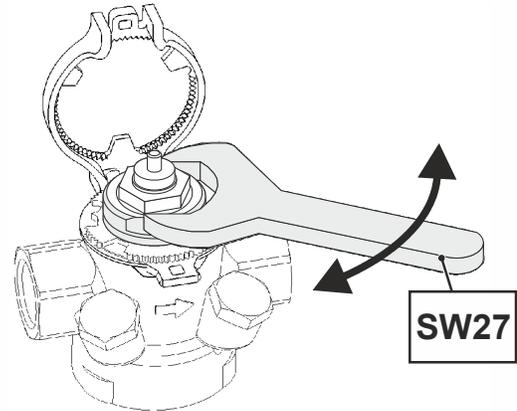

Fig. 5. Turning the presetting ring to desired setting
3. Turn the presetting ring to the desired maximum flow setting (see also Fig. 5 below).